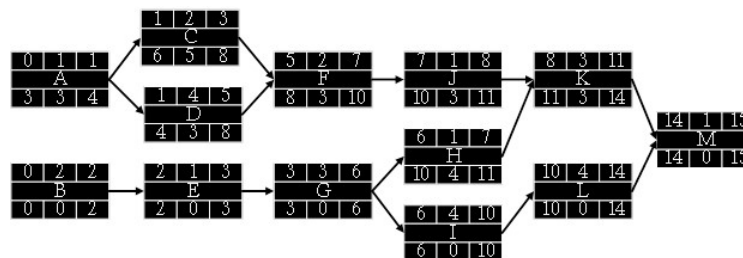

Figure 3.19: Completion of the backward pass
- When the backward pass is done for all the activities, we can generate all LS and LF times as well as slack times for all of them (Figure 3.19). Thus, we can determine the critical path where the total slack is zero.